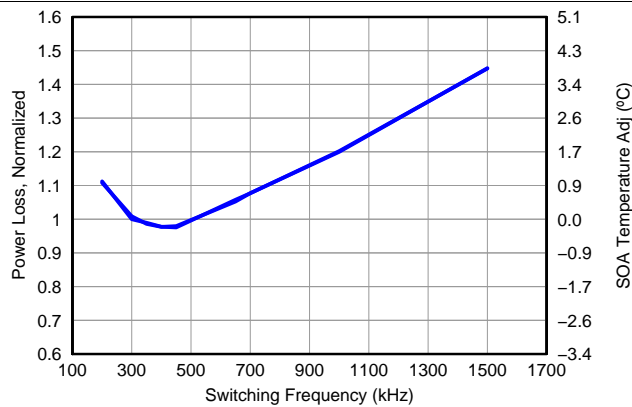

Figure 6. Normalized Power Loss vs Switching Frequency
- Normalized power loss for switching frequency \approx 1.2 (Figure 6)
- SOA adjustment for switching frequency \approx 1.2°C (Figure 6)